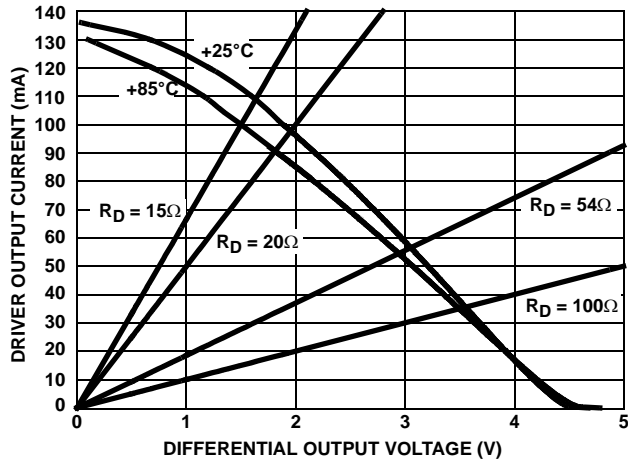

FIGURE 8. DRIVER OUTPUT CURRENT vs DIFFERENTIAL OUTPUT VOLTAGE
- See Figure 8 for more information, and for performance over temperature.
Another advantage of the large V_{OD} is the ability to drive more than two bus terminations, which allows for utilizing the ISL315XE in "star" and other multi-terminated, "non-standard" network topologies. Figure 8, details the transmitter's V_{OD} vs. I_{OUT} characteristic, and includes load lines for six (20 Ω) and eight (15 Ω) 120 Ω terminations. The figure shows that the driver typically delivers 1.65/1.5V into 6/8 terminations, even at the worst case temperature of +85°C. The RS-485 standard requires a minimum 1.5V V_{OD} into two terminations, but the ISL315XE delivers RS-485 voltage levels with 3X to 4X the number of terminations.